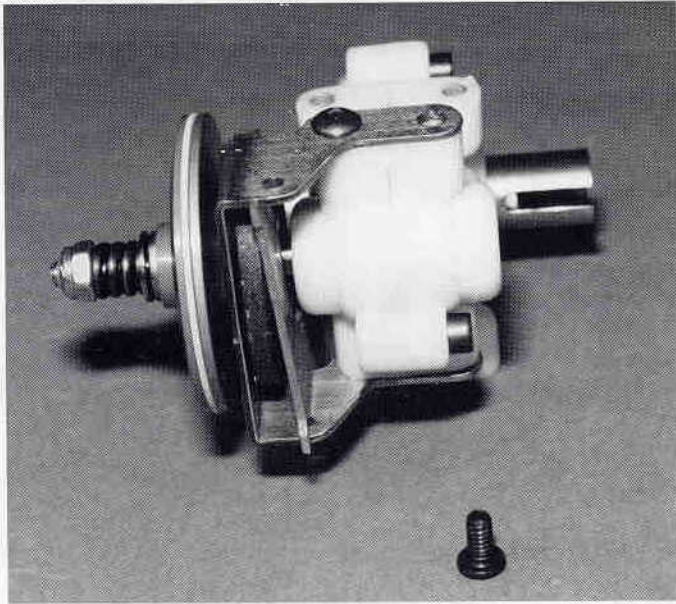

**Fig. 92**
- **Fig. 92** Remove the two #6919 4-40 x 5/16" BHSScrews from bag 7-13. If you look closely at the steel brake shoe you will see that each corner of the shoe has a little tip designed to hold the shoe onto the steel brake bracket without hardware. The brake shoe has sharp edges around one side. This side should face the disk. Slide the brake shoe onto the brake bracket so that the side with the rounded notch in the center is on the same side as the matching notch in the brake bracket.